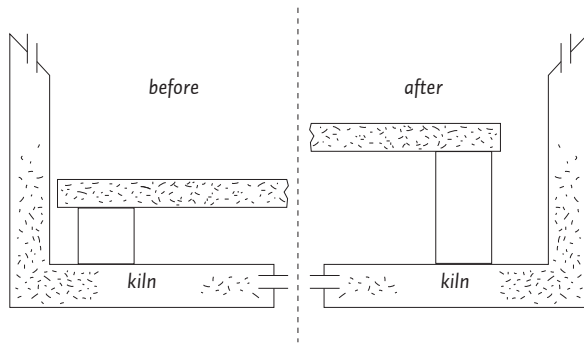

Figure 4
3. Reduce the size of the kiln shelf and raise it further off the kiln floor to allow greater heat circulation around the shelf and the piece. (Figure 4)